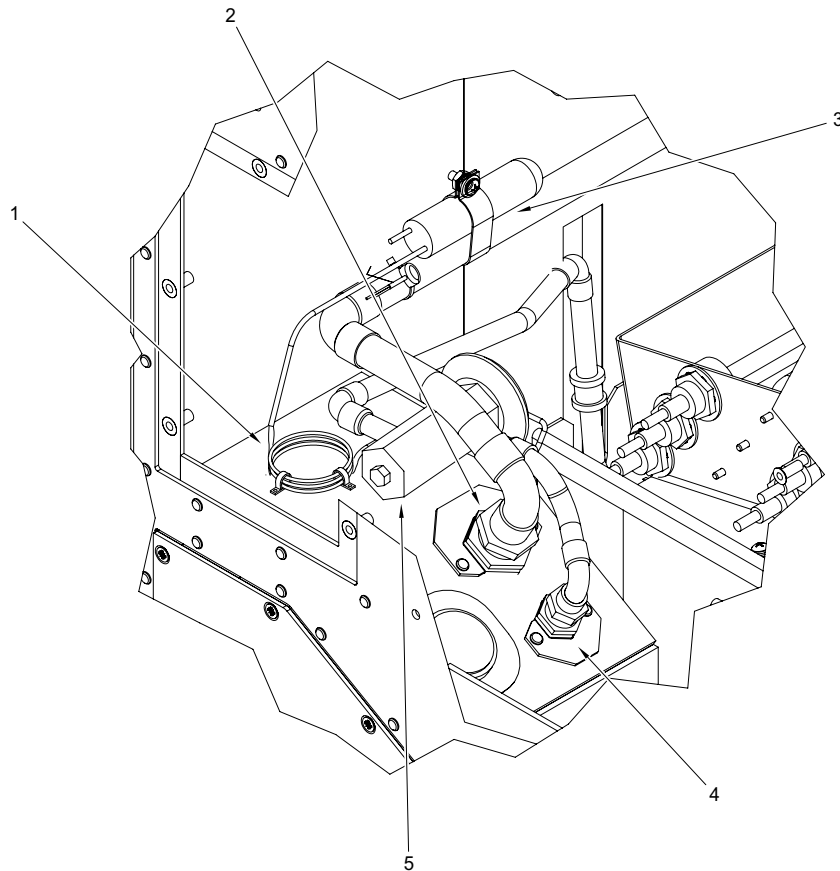

Figure 1. EVAPORATOR COIL - MALE COUPLING HALF AND THERMOSTATIC VALVE.
5. Inspect thermostatic valve for evidence of leaks, kinked or otherwise damaged capillary line (1), and loose or missing valve stem cap. See Figure 1.
1. Remove the screws that hold the clamps that support the thermostatic valve (5) and thermostatic valve capillary line (1). See Figure 1.
2. Carefully disconnect the low (4) and high (2) condenser to evaporator Refrigerant R-410A metal hose line connectors from the coupling halves. See Figure 1.
6. Unwrap insulation tape (black cork tape) from joints that are to be debrazed and from the sensing bulb (3). See Figure 1.